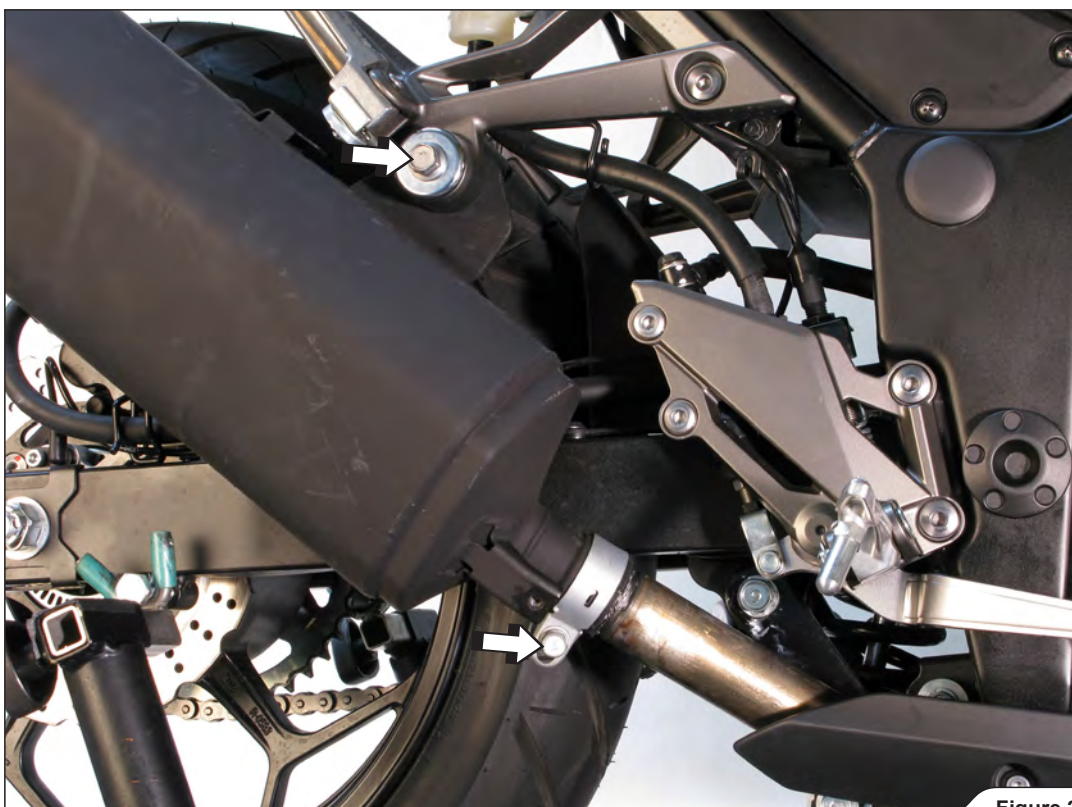

Figure 2
3. Loosen the marked clamp, unscrew the muffler's bracket bolt and carefully remove the muffler off the motorcycle (Figure 2).